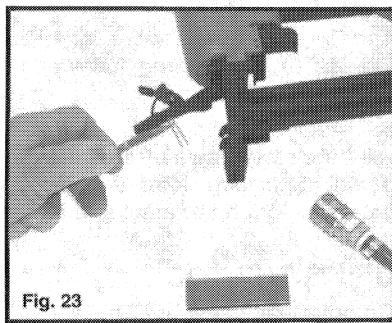

Fig. 23
4. Remove the jammed fastener (see Fig. 23).